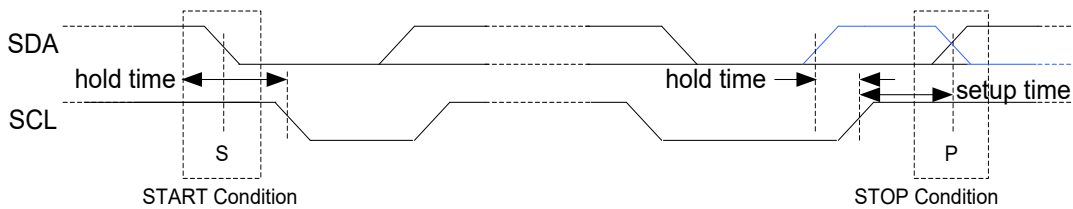

Figure 55. START and STOP (or repeated START, blue line) condition
An idle I2C bus state occurs when both SCL and SDA are not being driven by any master and are therefore in a logic HI state due to the pull up resistors. Every transaction begins with a START (S) signal and ends with a STOP (P) signal. A START condition is defined by a high to low transition on the SDA while SCL is high. A STOP condition is defined by a low to high transition on the SDA while SCL is high. START and STOP conditions are always generated by the master. This slave module also supports repeated START (Sr) condition which is same as START condition instead of STOP condition (the blue-color line shows repeated START in Figure 55).